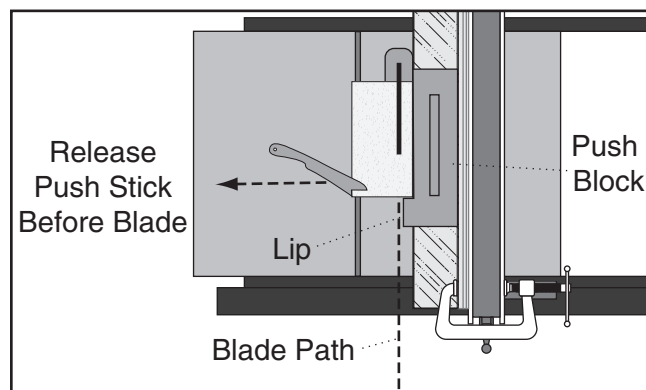

Figure 86. Ripping with push block.
6. Guide workpiece rest of way through cut with push block, as shown in **Figure 86**.